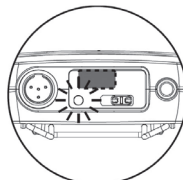

Figure 7
2. The receiver's LED will illuminate, indicating the frequency is being transmitted to the belt pack and that the belt pack is synchronizing channels with the receiver (Fig 7).